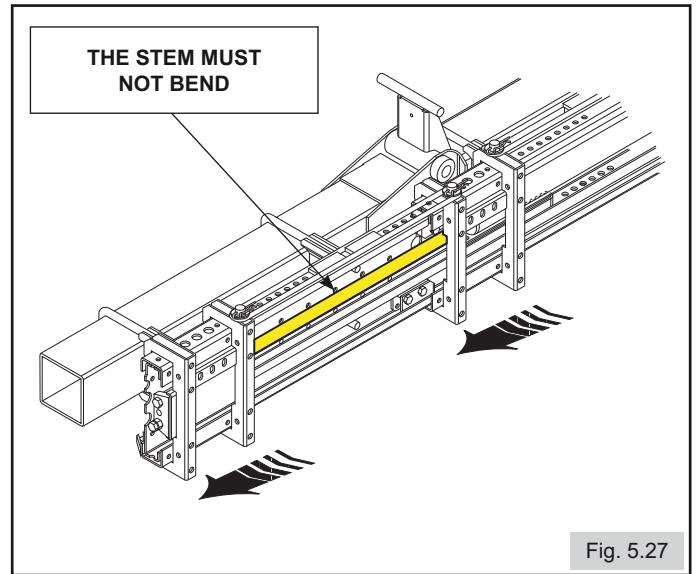

Fig. 5.27
- Take the element to the end of stroke thus preventing the stem for bending (open slowly)(Fig. 5.27).